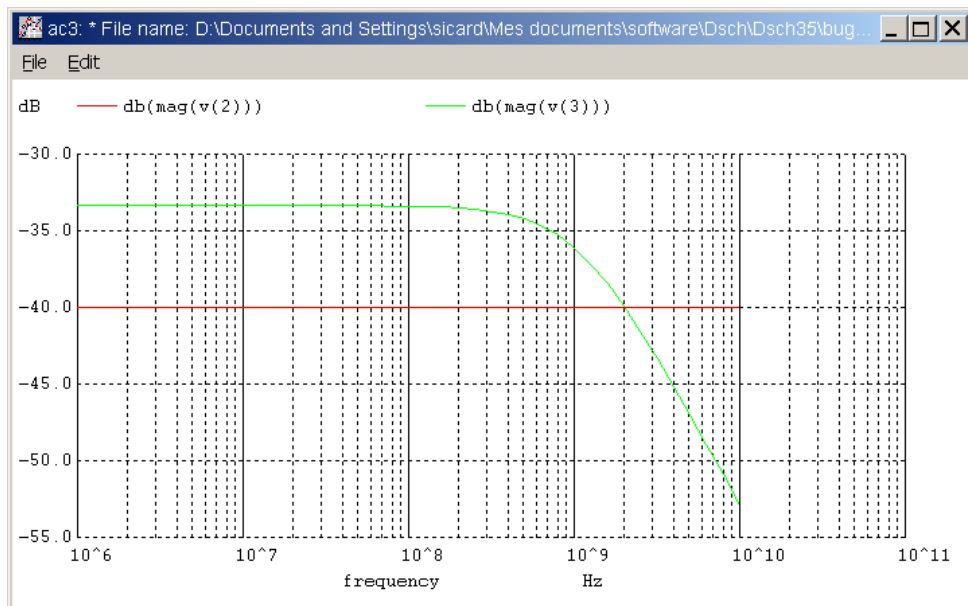

Figure 15: Voltages plotted in dB (spice/spiceampliac.sch)
To plot the output directly in dB, the SPICE text should be modified manually in the SPICE window as detailed in Fig. 15. Change V(2) into Vdb(2), and V(3) into Vdb(3). Click « Save SPICE File », the new plot appears in Fig. xxx. Note that -40 dB corresponds to 0.01 V (0 dB = 1V, -20 dB = 100 mV, etc.).